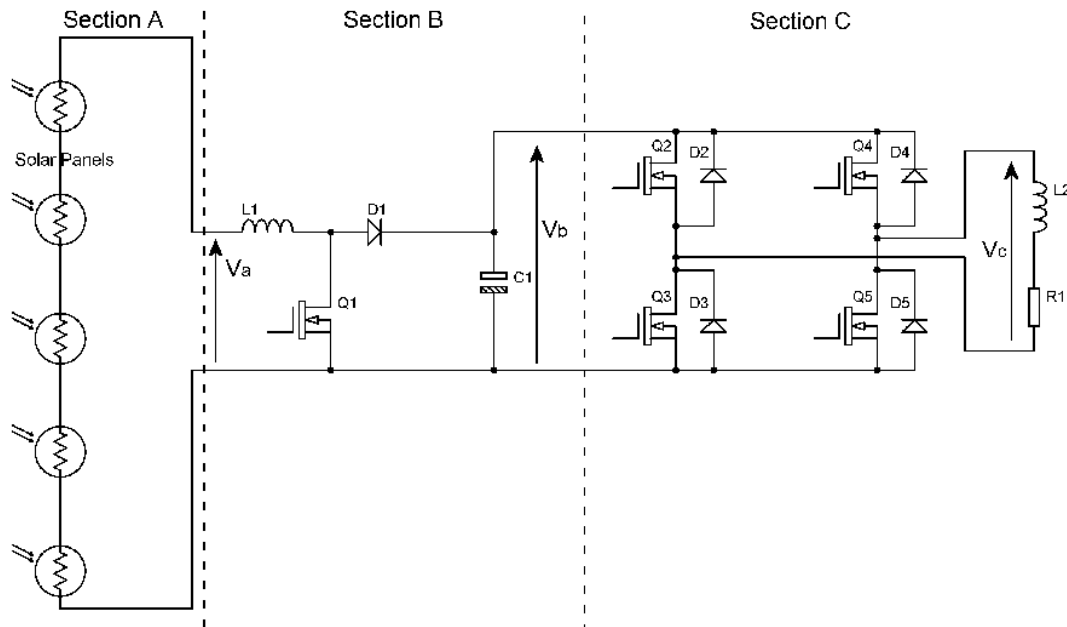

Figure 2 – Standalone solar power supply.
4. a. The circuit diagram of a standalone solar power supply shown in Figure 2 is divided into 3 sections, A, B & C by the vertical dotted lines. With the aid of circuit diagrams, voltage waveforms and current waveforms, derive the transfer function V_b/V_a for the DC-DC converter in section B. (8)
- b. If the total voltage output, V_a , of the solar panels in section A of Figure 2 varies between 120V and 300V, and the voltage output, V_b , of section B needs to be 400V and supply between 0.1A and 7A, find the values of the inductor and capacitor in the converter (L_1 and C_1), and suggest ratings for the switch and diode in the converter (Q_1 and D_1). Assume the converter operates at 100kHz and the output voltage of section B should have less than a 2% ripple. (8)
- c. Highlight and explain the key features of components D_1 and C_1 in the converter circuit. (4)